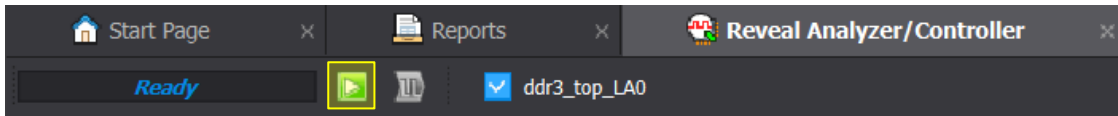

Figure 4.5. Run Button
- Click on the Run button highlighted in Figure 4.5 to run the analyzer and assert the reset signal to capture the waveforms.